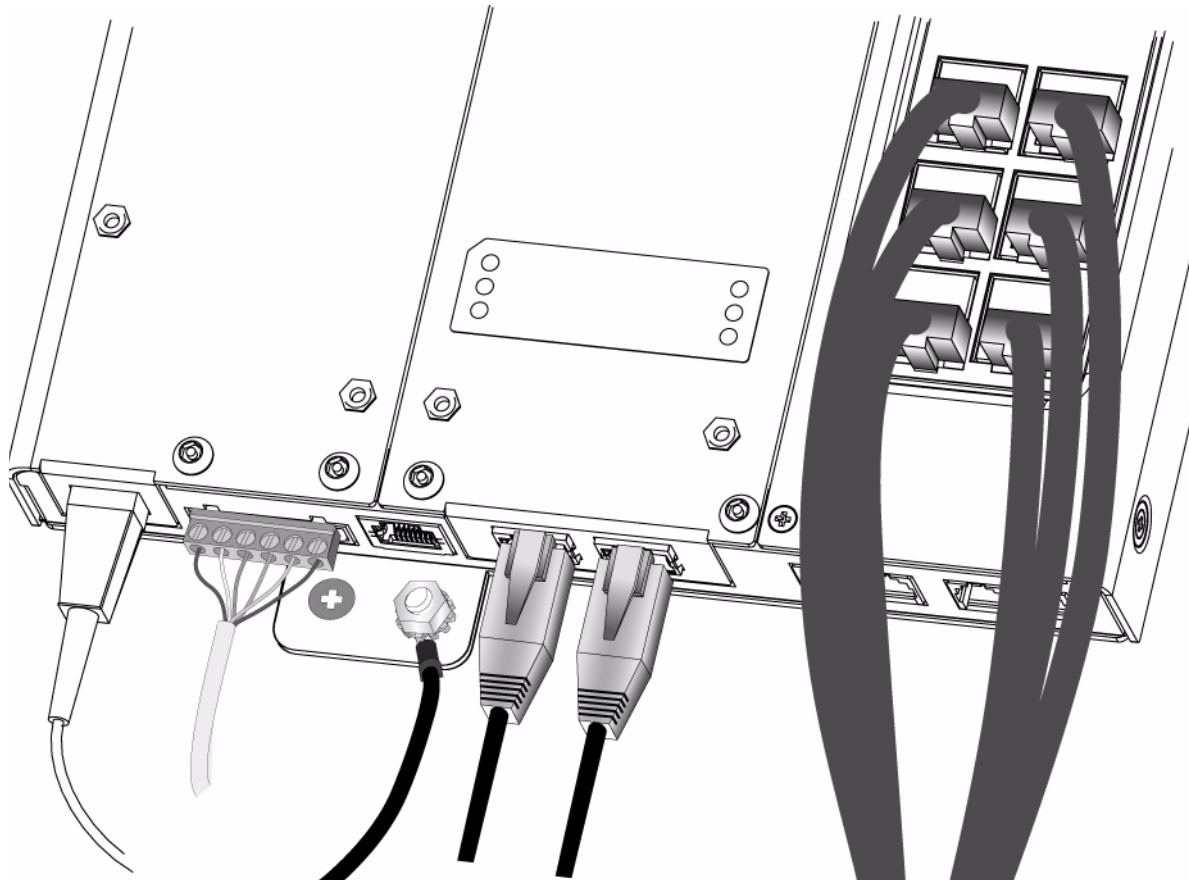

Figure 29. Connecting the LAN Cables
1. Connect the LAN cables to the RJ-45 ports on the gateway, as shown in Figure 29